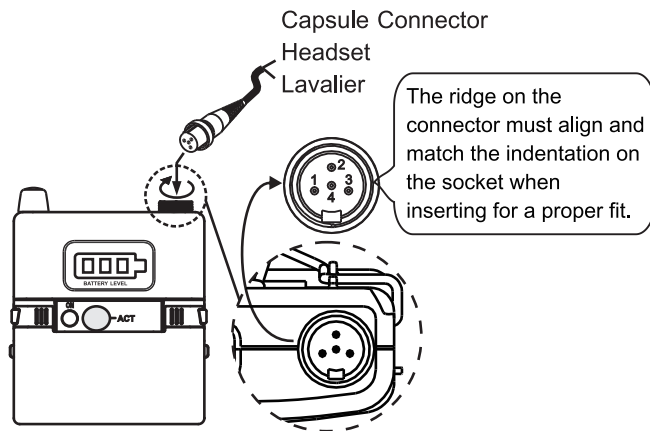

Fig. 2
- ④ Housing
- ⑤ Battery Level LCD Display
- ⑥ ACT Sync Window
- ⑦ Power Switch
- ⑧ Battery Compartment
- ⑨ Battery Cover
- ⑩ Remote control mute connector
- ⑪ Reversible Belt Clip
- ⑫ Battery Charging Contact
- (A) Before turning on the power, connect the input signal source to the microphone input jacket ❶ first to avoid open-circuit induced noise, Fig. 2.
- (B) Align and fasten the connector clockwise for a secured fit.